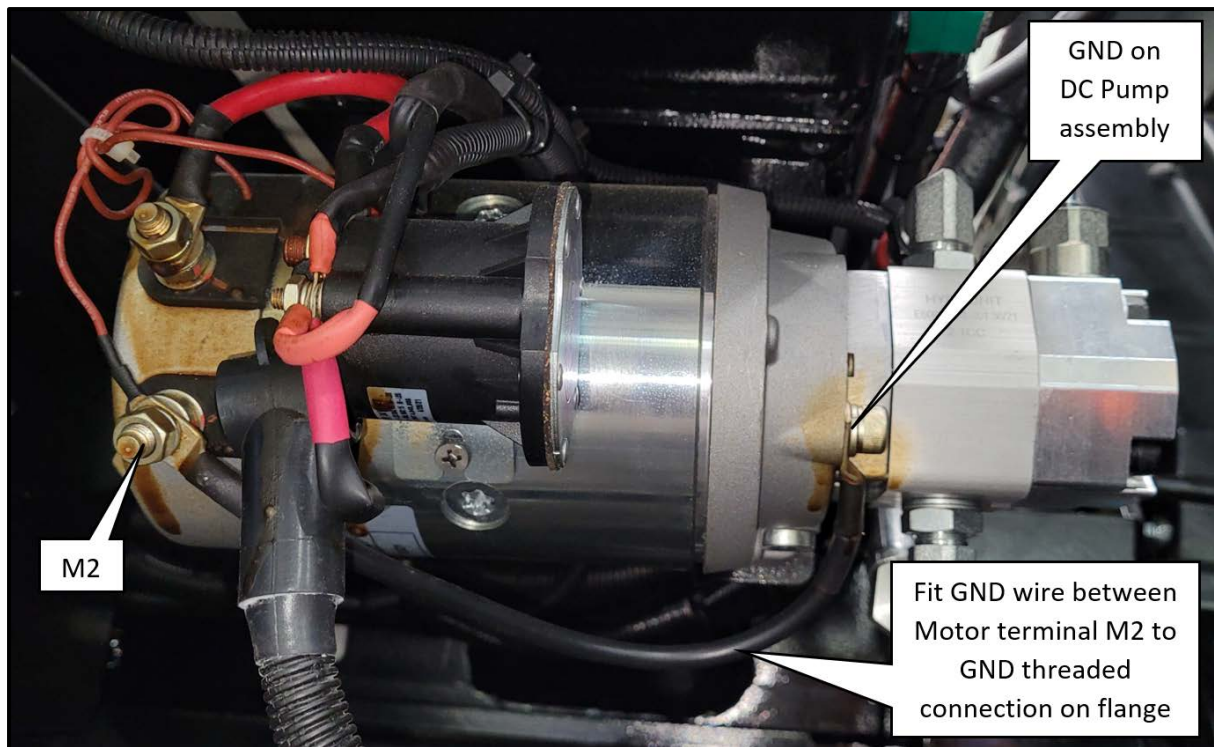

Figure 5: Alternative DC Pump GND wire
- d. Fit ground wire assembly from terminal M2 to GND threaded connection on DC Pump assembly flange. Refer to Figure 5 for fitment. DC Motor will be grounded through the chassis subframe.
- e. Fit ground wire assembly from terminal M2 to GND threaded connection on DC Pump assembly flange. Refer to Figure 5 for fitment. DC Motor will be grounded through the chassis subframe.